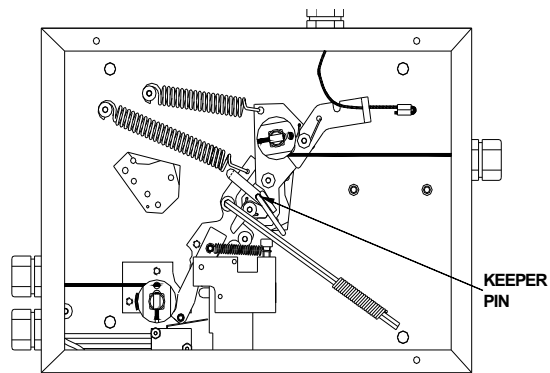

Figure B-10.
3. Insert the Keeper Pin into the keeper pin hole and slide the hook of the Keeper Pin over the Detection Arm. The Keeper Pin hook must engage the Detection Arm completely. See **Figure B-10**.